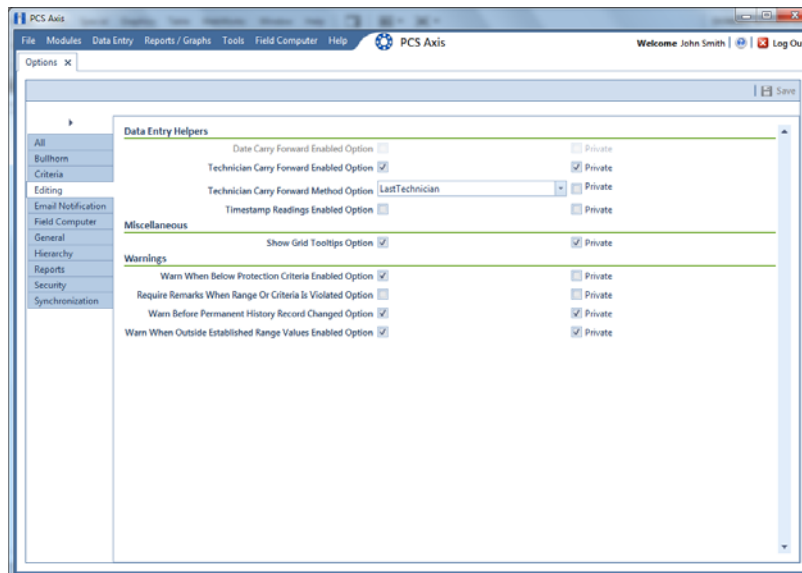

Figure 3-8. Editing Options
- 2 Click the **Editing** tab to open the *Editing* options page (Figure 3-8).